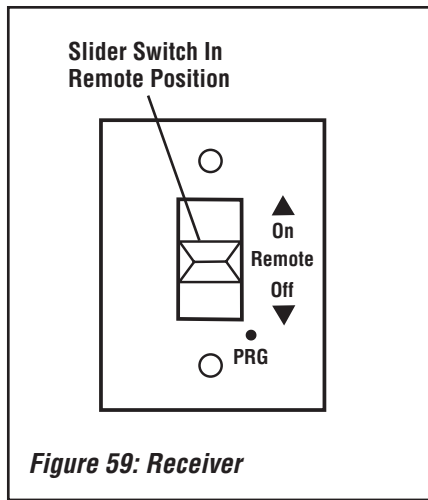

Figure 59: Receiver
Place the three position slider switch in the "Remote" position (see **Figure 59, next page**). Using the end of a paper clip, or other similar object, insert the end of the paper clip into the hole marked "PRG" on the Receiver front cover. The Receiver will "beep" three (3) times to indicate that it is ready to synchronize with a Transmitter.